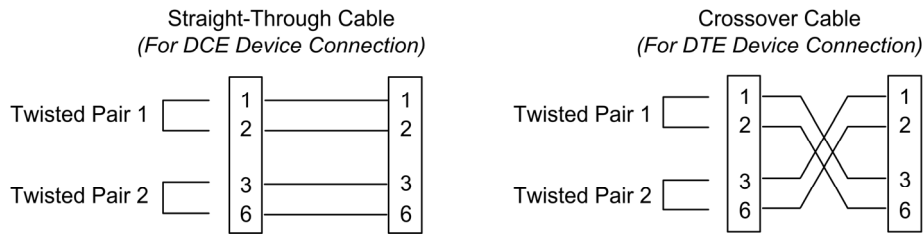

Figure 12: Straight Through and Crossover Cables
3.	Repeat Steps 1 and 2 for the other equipment. See Figure 12.